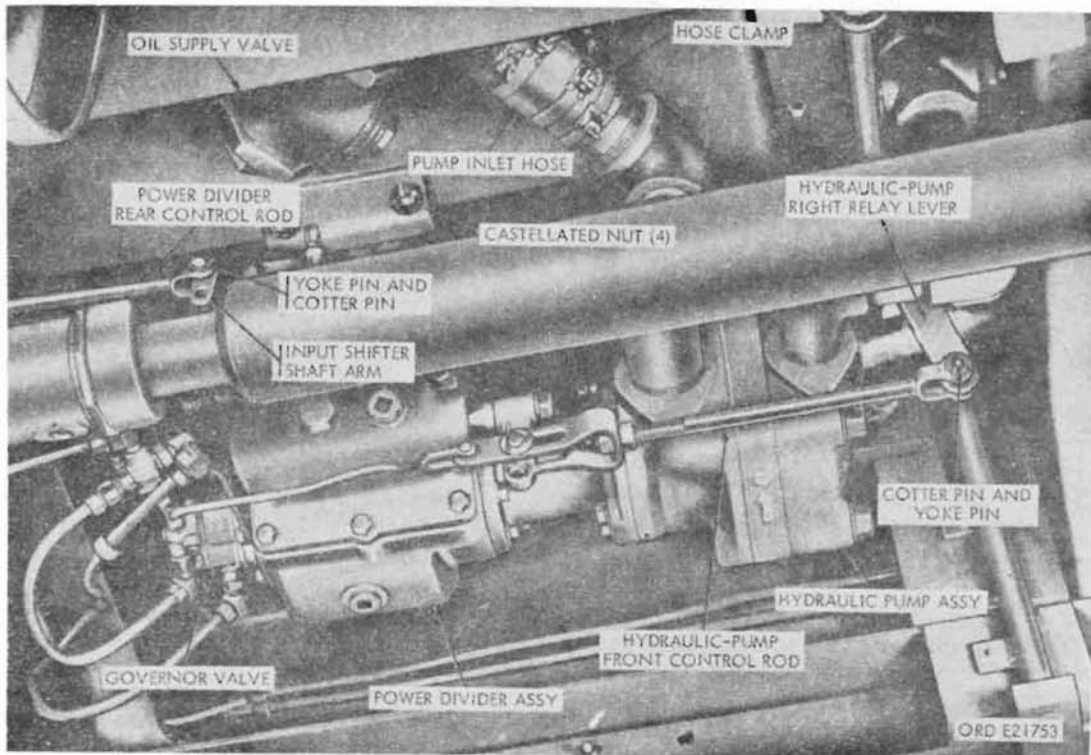

Figure 318. Bottom view of right side of power-divider - M60
- (7) Remove cotter pin and yoke pin (fig. 318) securing hydraulic-pump-front-control-rod yoke to hydraulic-pump right relay lever, and remove yoke from lever.
- (10) Remove yoke pin and cotter pin (fig. 318) securing power-divider-rear-control rod yoke to input shifter-shaft arm, and remove yoke from arm.
- (11) Unscrew nut securing carburetor-to-governor-valve line (AA) to governor-valve (W) inlet port elbow (Z), and remove line from elbow.
- (12) Unscrew nut securing governor-valve-to-control-valve line (BB) to control-valve inlet port elbow (Z) and remove line from elbow.
- (13) Unscrew nut securing control-valve-to-governor line (A) to control-valve outlet port elbow (Z) and remove line from elbow.
- (14) Support power-divider, pump, and relief valve assembly, and remove four cotter pins and castellated nuts (fig. 318) securing power-divider mounting bracket to studs on bottom of reservoir. Remove power-divider, pump, and relief valve assembly from under vehicle.
- (8) Position power-divider, pump, and relief valve assembly under vehicle, and secure power-divider mounting bracket to studs on underside of hydraulic reservoir with four castellated nuts (fig. 318) and cotter pins.
- (9) Position control-valve-to-governor line (A) at control-valve outlet port elbow (Z) and tighten connector nut.
- (10) Position governor-valve-to-control-valve line (BB) at control-valve inlet port elbow (Z), and tighten connector nut.
- (11) Position carburetor-to-governor valve line (AA) at governor-valve inlet port elbow (Z), and tighten connector nut.
- (12) Position power-divider-rear-control-rod yoke on input shifter-shaft arm (fig. 318), and secure with yoke pin and cotter pin.
- (14) Connect power-takeoff propeller shaft to drive-shaft yoke (CC) at front of power-divider.
- (15) Position hydraulic-pump-front-control rod yoke on hydraulic pump right relay lever (fig. 318), and secure with yoke pin and cotter pin.